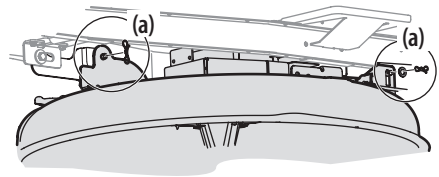

Figure 32
5. Remove the remaining bow-tie cotter pins (a) securing the deck to the riding mower, as shown in Figure 32.
NOTE: When reassembling, the bow-tie cotter pins (a) should be re-installed from the top down. See Figure 32.